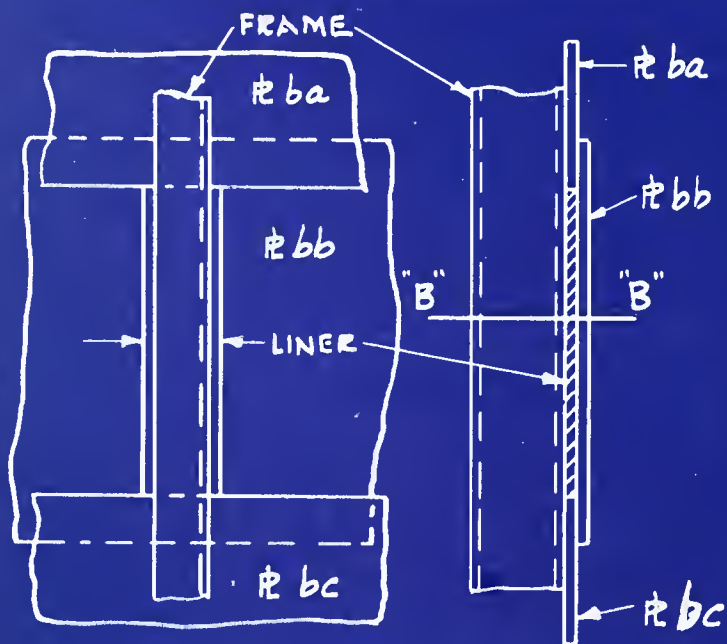

FIG. 26 PARALLEL LINER.
9. What piece marks are shown on Figs. 26 and 27? 9. _____